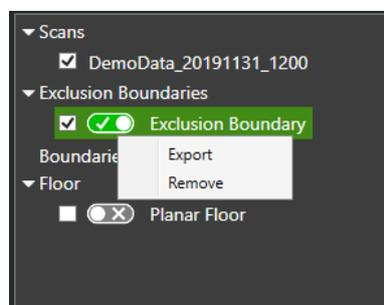

Figure 61. Exclusion boundary *Export / Remove* dialog.
- Right-Click* -> boundary name. This will open a secondary options dialog (Figure 61).